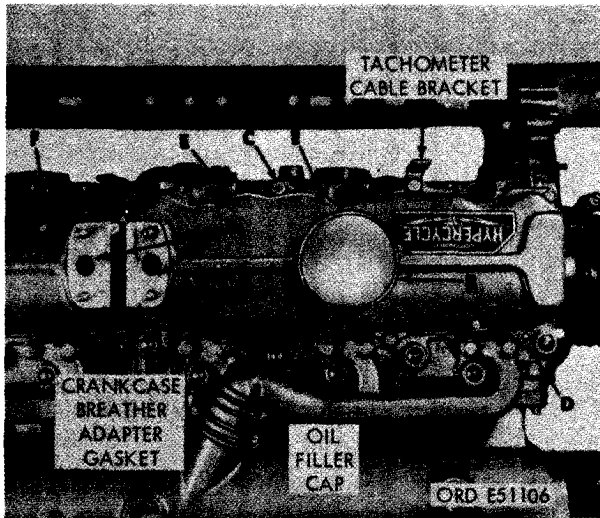

FIGURE 264. REMOVING FRONT AND REAR CYLINDER HEAD COVERS.
- (2) Figure 264. (A) Remove and discard crankcase breather adapter gaskets from front and rear cylinder head covers. (B) Remove oil filler cap. (C) Remove seven 5/16 x 7/8 cap screws and 5/16-inch lock washers securing front cylinder head cover and tachometer cable bracket to front cylinder head assembly. (D) On late model en-